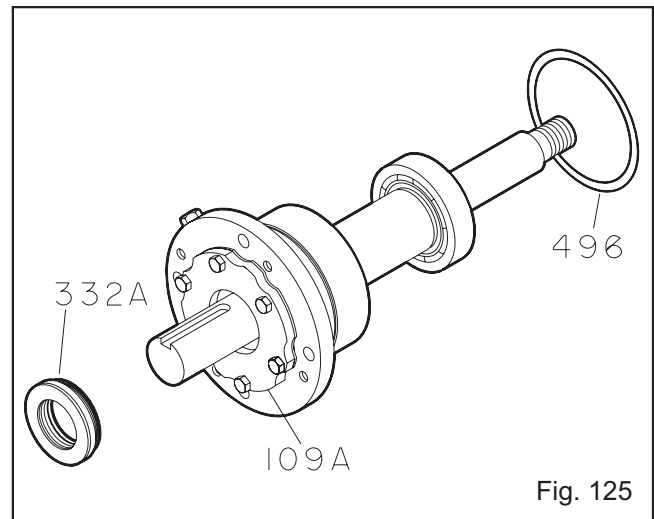

Fig. 125
- Install new O-ring (496) (Fig. 125).
- Install outboard labyrinth oil seal (332A) into end cover (109A). It is an O-ring fit. Position the labyrinth seal drain slots at the bottom 6 o'clock position (Fig. 125).
- Coat outside of bearing housing (134) with oil.